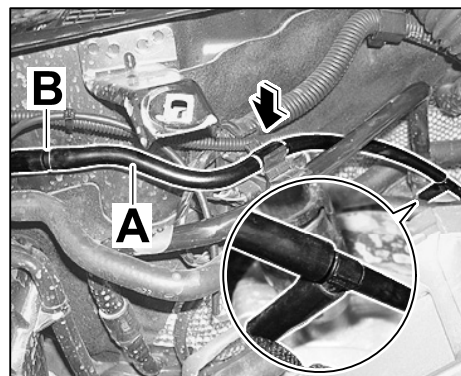

Figure 12
- 3.5.2 Attach vacuum line in engine compartment $\Rightarrow$ *Figure 12 -A-* to the Y-piece $\Rightarrow$ *Figure 12 -inset-* and join it to the vacuum line in the wheel housing $\Rightarrow$ *Figure 12 -B-*.
- 3.5.3 Fit vacuum line in engine compartment into the holder $\Rightarrow$ *Figure 12 -arrow-*.